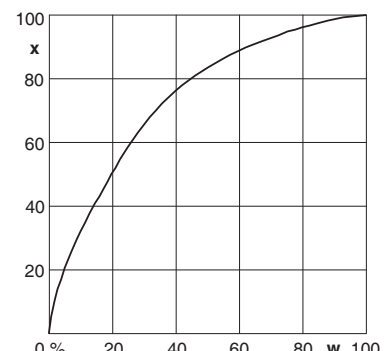

Fig. 4.3
4.3 "Quick open" (Inverse equal percentage)": Results in an inversely equal percentage characteristic line with a position ratio of 50:1 for a valve of linear characteristic. See Fig. 4.3